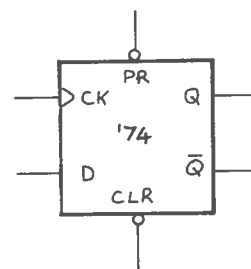

Fig.4 - Terminals of D-type flip flop
The function table of the D-type flip flop (Fig.4) is shown in Table 1. The shaded portions represent the functions which are in use.
The PRESET (PR) input is used to initialize the flip flop. This input is marked (Fig.4) with an "o" symbol to signify that it is active when pulled low. It is therefore held high normally by tying it to the positive rail; it is activated by pressing the pushbutton. On initialization the Q output goes high.